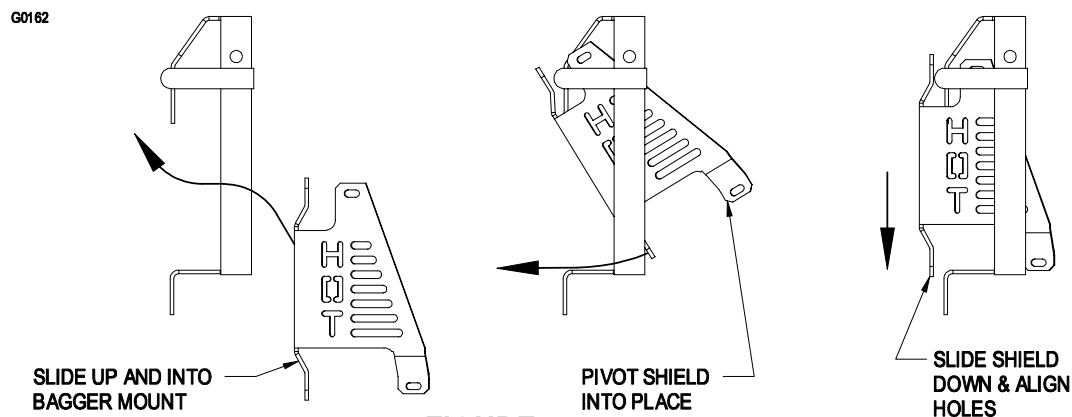

FIGURE 7
- 3.4.1. Working from the front side of the bagger mount, slide the top end of the engine guard up and into the mount. Pivot the lower end through the bagger mount and slide it down into place until the holes align with the holes in the bagger mount (See Figure 7).